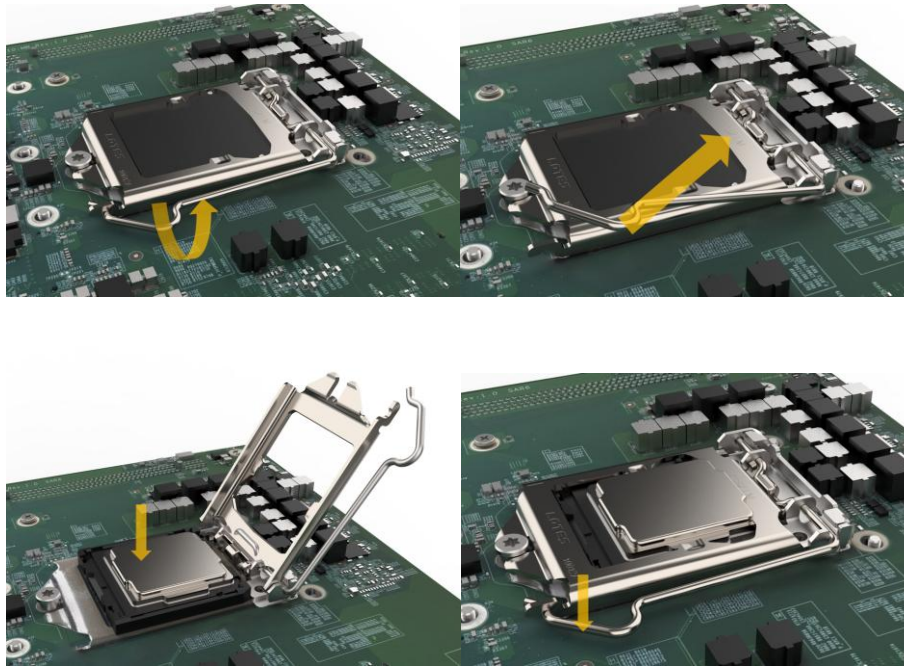

Figure 3-3: CPU Installation
Step 2: Pull the lever of the CPU buckle, remove the CPU protection cover, install the CPU at the notch, and fasten the lever down in the buckle (**Figure 3-3**).